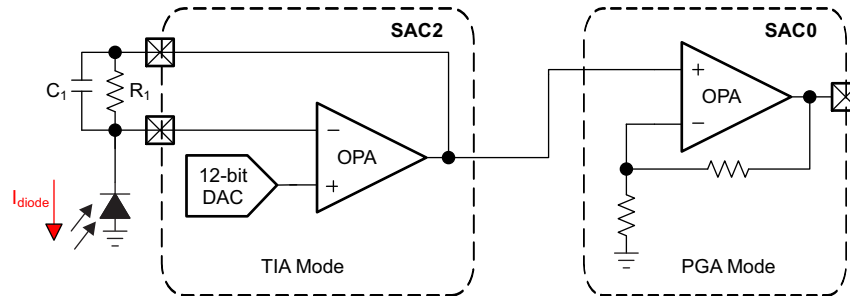

Figure 14. Use Smart Analog Combo in Smoke Detector
This section describes how to use SAC in real sensing and measurement applications. Smoke detector and current loop are taken as two application examples. Figure 14 shows SAC use case in smoke detector application. The first-stage SAC is configured in TIA mode, and the second-stage SAC is configured in noninverting PGA mode. The DAC is used in the first-stage SAC to provide bias voltage so the output swing limitation can be avoided. The output current of the infrared radiation (IR) receiver runs through the TIA to convert the output current of the IR receiver into an analog voltage. This analog voltage is amplified by the second-stage amplifier and then measured by the ADC on the MSP430 MCU.